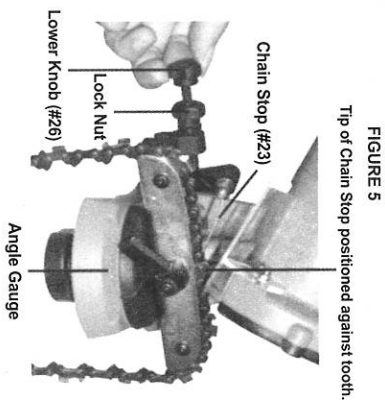

FIGURE 5
3. Lower the **Chain Stop(#23)** so that it is positioned on the tooth (blade) you want to start with. See FIGURE 5.
4. See FIGURES 5&6. Loosen the **LOCK Wheel (#18)** to allow entire housing to turn. Rotate the housing to match the degree of angle you need on the Angle Gauge. Chains come in various sizes with varying degrees of sharpening angles. Check with your chain manufacturer's manual to determine what degree you need to sharpen at. Once the degree is set, tighten the **Lock Wheel(#18)**.